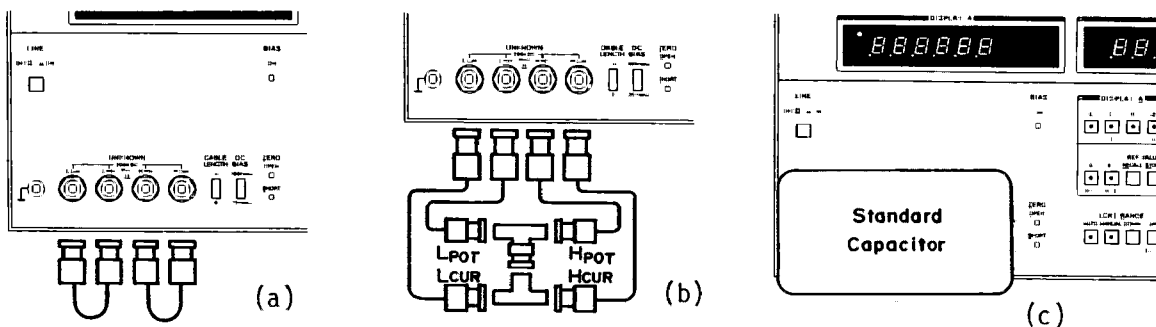

Figure 4-4. Capacitance Accuracy Test Setups.
2. Connect L_{CUR} and L_{POT} terminals with a BNC to BNC cable as shown in Figure 4-4 (a). Similarly connect H_{CUR} and H_{POT} terminals.
5. Connect cables and terminal adapters as shown in Figure 4-4 (b). Connect BNC tee adapters to each other.
7. Disconnect cables and connect 1pF Standard Capacitor direct to UNKNOWN terminals as shown in Figure 4-4 (c).